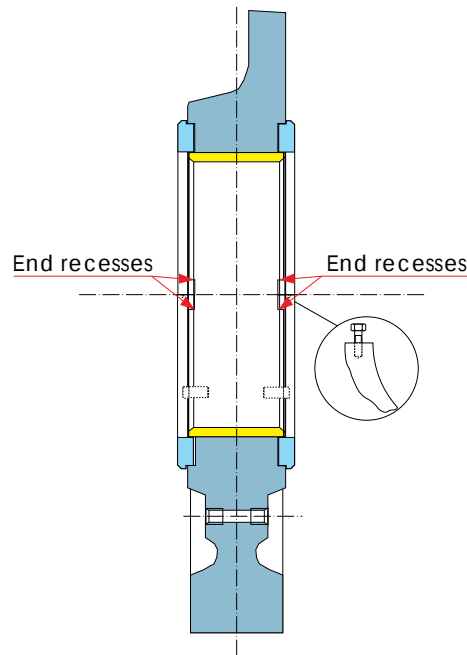

Fig 10-3
12 Remove the lower bearing shell and the thrust washers. To remove the thrust washer next to the driving end, an M6 screw can be fitted to each end of the washer, see Fig 10-3.
- 3 Lubricate the bearing surface**, back side and both ends of the upper bearing shell with clean lubricating oil and place the end of the bearing shell in the slot between the journal and the bearing bore. The axial location of the shell is to be secured by keeping the bearing shell end recesses at level with the axial faces in the engine block, see Fig 10-3.
8 Lubricate the bearing surfaces of the lower thrust washers and push them into position on the guiding pins in the bearing cap. For mounting the thrust washer next to the driving end an M6 screw can be fitted to each end of the washer, see Fig 10-3.
9 Lubricate the bearing surface of the lower bearing shell with clean lubricating oil and place the shell in bearing cap. The axial location of the shell is to be secured by keeping the bearing shell end recesses at level with the axial faces in the cap, see Fig 10-3.